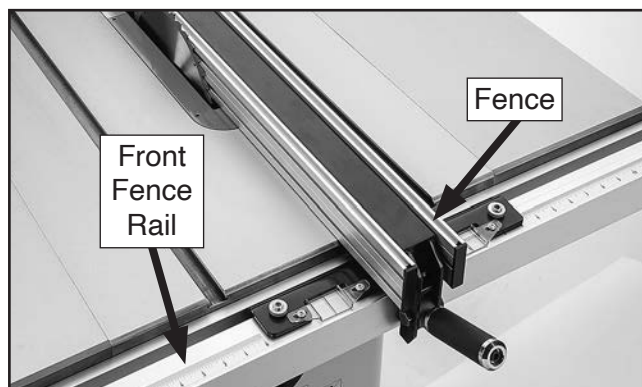

Figure 26. Fence installed on front rail.
17. Place fence on front fence rail, as shown in **Figure 26**.